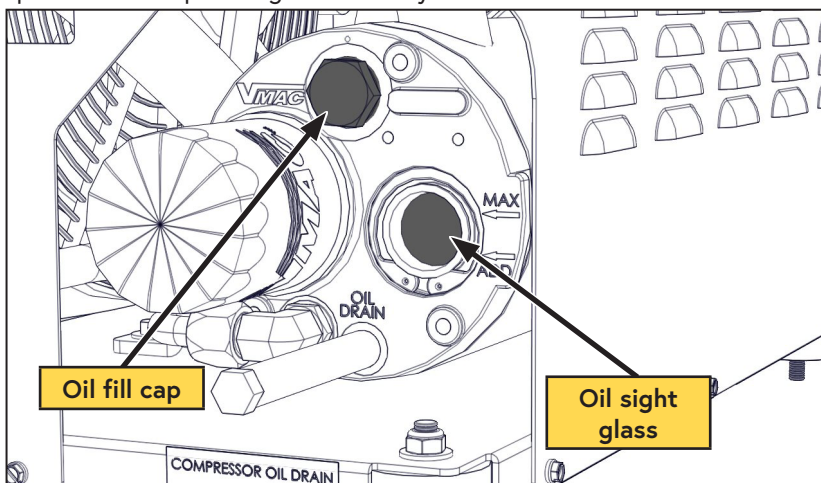

Figure 24 — Inspecting the oil
- ☐ Remove the fill cap (Figure 24).